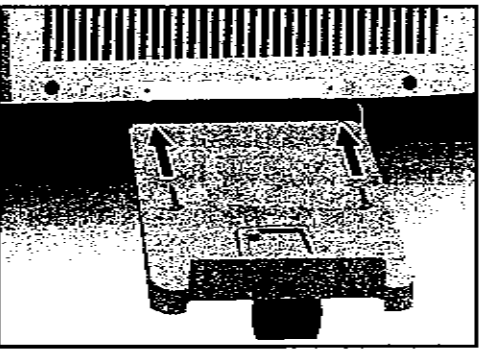

Fig.35
1. Attach the water tank support tray (with factory installed caster) to the saddle brackets located at the back of the cabinet, using two screws provided. See Fig. 35